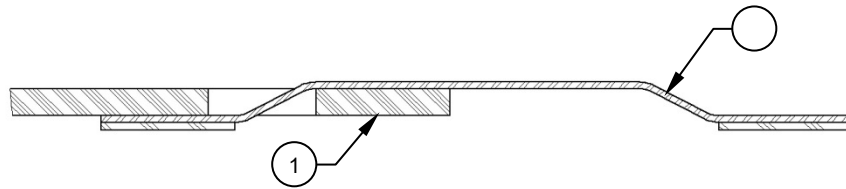

Figure 10
1. Remove the Retainer 2X Strip, Assy's (Item 4) by pulling the tabs out of the slots in the panel as shown. Reference Figures 10 & 11.